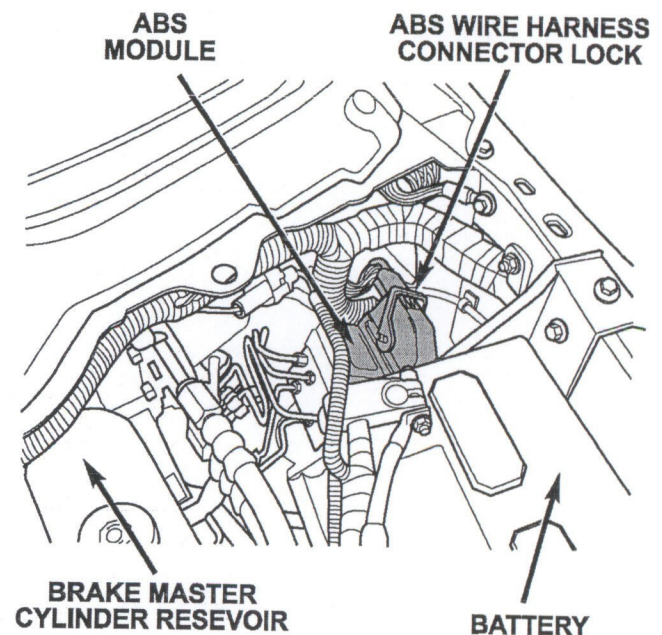
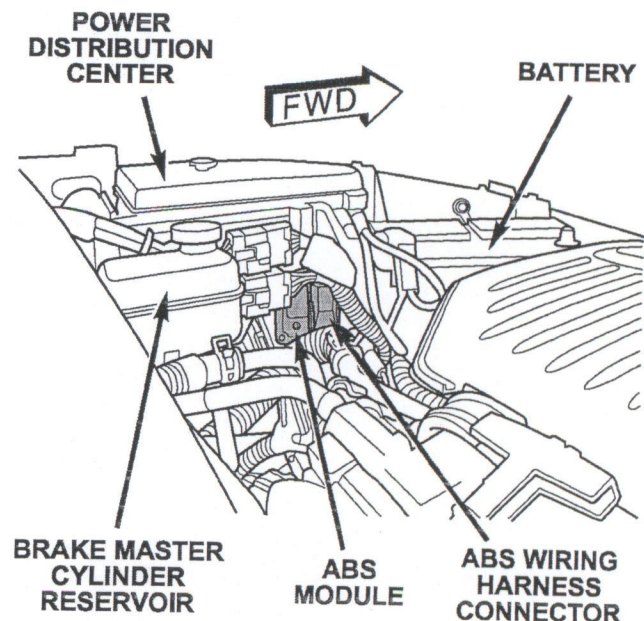

Figure 1 – DR/DH/D1 Models
Figure 2 – ND Model
NOTE: The ABS control module is located next to the battery on DR/DH and D1 models (Dodge Ram Truck) (Figure 1). The ABS control module is located under the Power Distribution Center on ND models (Dodge Dakota) (Figure 2).
3. Pull up on the ABS control module harness connector lock and disconnect the wiring from the ABS control module (Figure 1).